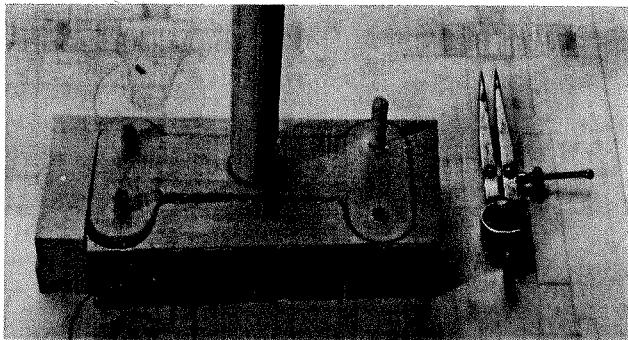

FIGURE 15-5
- 2** Take the wood you have selected for the two bogey chassis plates, pin and drill them as already described for the brackets, and then fret them out on the scroll saw (Fig 15-5).